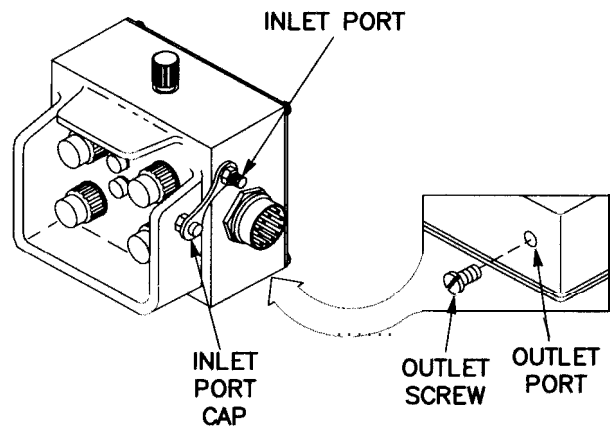

Figure 3-4 Ammo Select Unit
3-5. COMPUTER, M21 ELECTRONIC (figs. 3-4 through 3-9).
- a. Ammo Select Unit - two each (fig. 3-4).